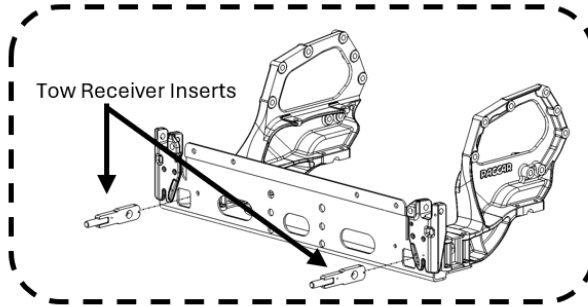
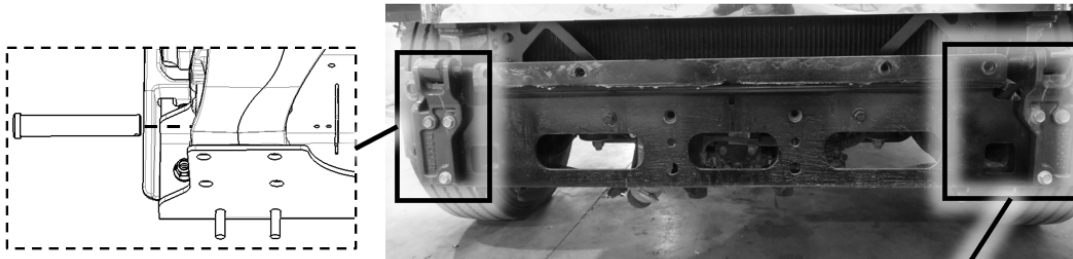

Figure 2a: Tow Receiver Insert Installation
Figure 2b: Clevis & Cotter Pin Installation (Viewed from Below)
2. Install the Tow Receiver Inserts into the trucks' tow receivers; see Figure 2a. Secure the Inserts using the provided Clevis Pins and Cotter Pins as shown in Figure 2b.